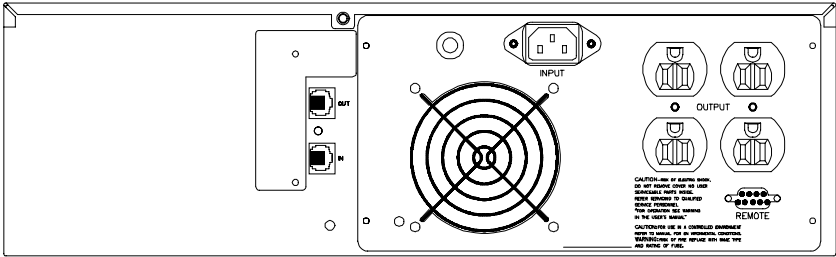

Figure 1.16
1.3.5 Rackmount Models: 800A-RM, 1250A-RM, 1500A-RM, 2000A-RM (Figures 1.16 to 1.19)